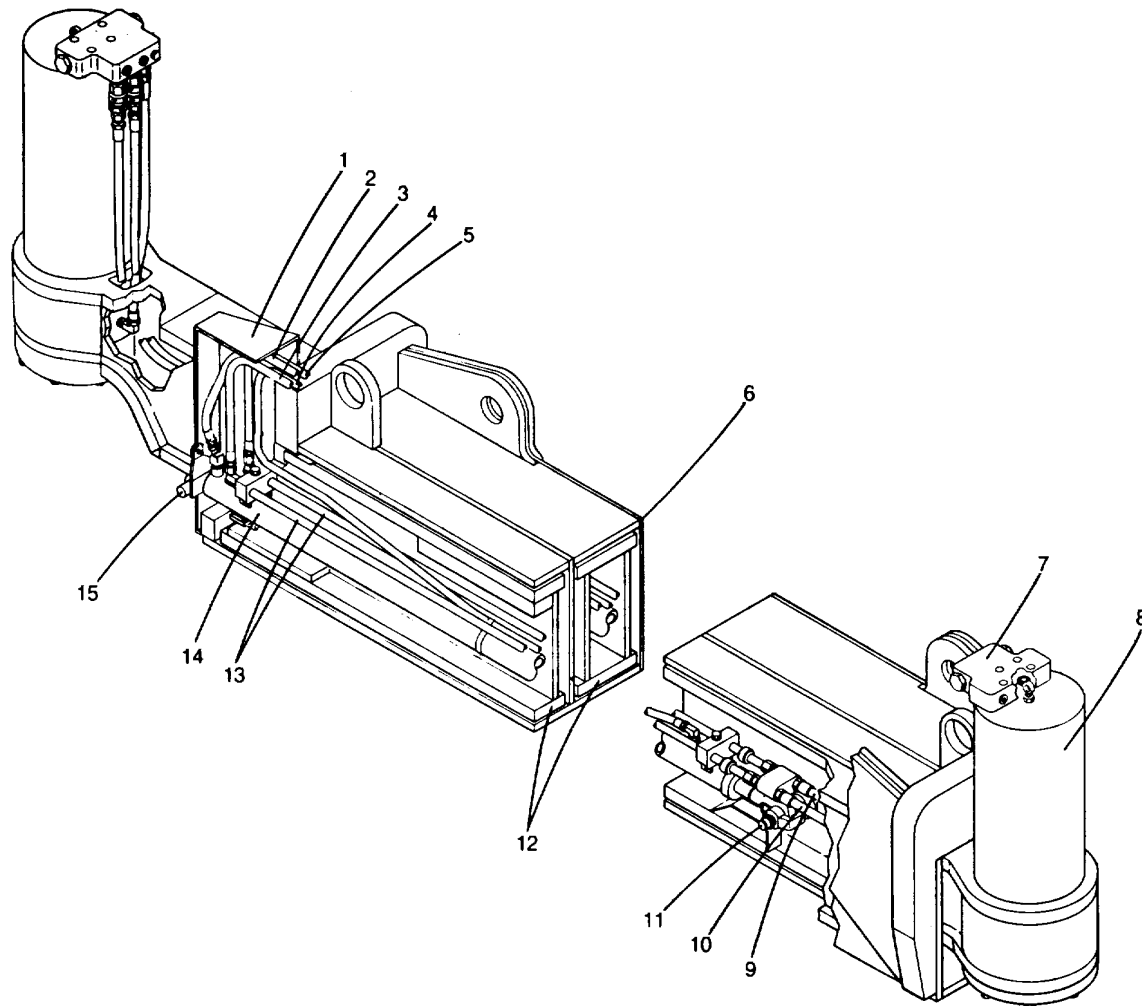

Fig. 1
3.1 Beam Cylinder Removal (Refer To Fig. 1)
- (a) Remove cover plate (1).
- (b) Disconnect hydraulic hoses (2), (3), (4) and (5) at the quick disconnect. Cap or plug all openings to prevent entry of foreign material. Attach a cord or wire to the hoses before removing beam. Leave the cord or wire in the box after removing beam, to pull hoses back through.
- (c) Unpin the cylinder (14) from cylinder bracket by removing pin (15).
- (d) Slide beam (12) out of box (6).
- (e) Disconnect hydraulic hoses (9) and (10) from lock valve (7). Cap or plug all openings to prevent entry of foreign material.